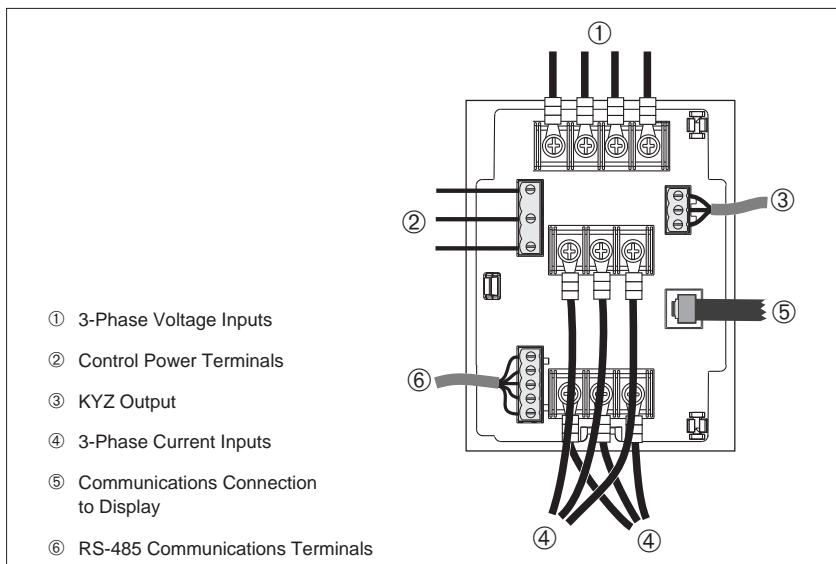

Figure 5-9: Power meter wire routing
Typical power meter module wire routing is shown in figure 5-9 below.
1. Strip 0.25" (6 mm) of insulation from the end of all wires. Using a suitable crimping tool, attach the spade connectors (in hardware kit) to the voltage and current input wires (up to 12 AWG) as shown in figure 5-9.
2. Connect the spade connectors to the 3-phase voltage input terminals (①, figure 5-9) and the 3-phase current input terminals (④, figure 5-9). Tighten the terminal block screws to 9 lb-in (1.0 N•m).
3. Insert 14 AWG control power wires into the control power terminal block as shown in figure 5-9. Derive control power from one of these sources: